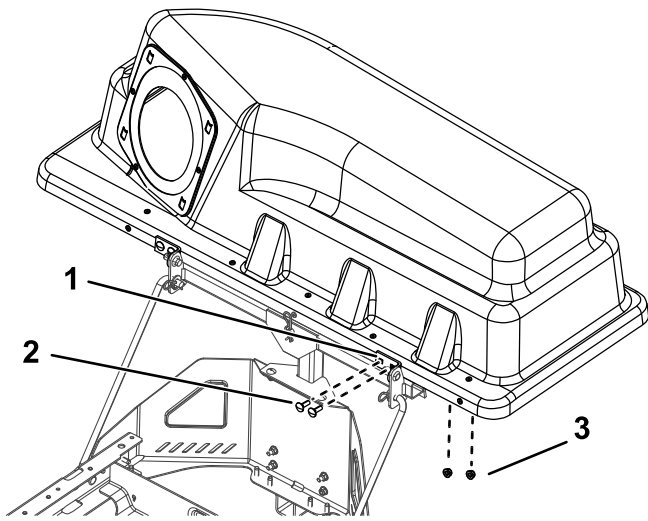

Figure 23
5. **For model 79392 only:** install the pivot brackets onto the pivot frame (Figure 23).